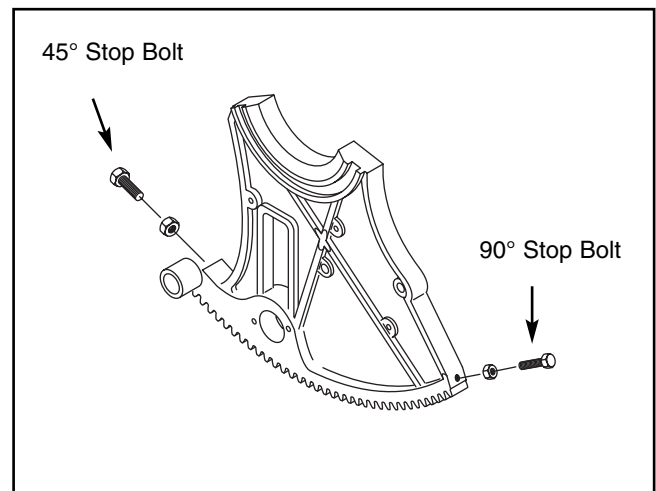

Figure 20. 90° and 45° stop bolts.
3. Adjust the handwheel until the square is flush with the blade. Loosen the tilt indicator arrow, set to zero, and retighten. Loosen and adjust the stop bolt on the left side of the front trunnion (**Figure 20**) to allow a 90° stop point.
6. Repeat **Steps 1-6** for setting the blade to 45° and adjust the 45° stop bolt on the right side of the front trunnion as shown in **Figure 20**. Use the 45° side of a combo square or a bevel gauge set at 45°.